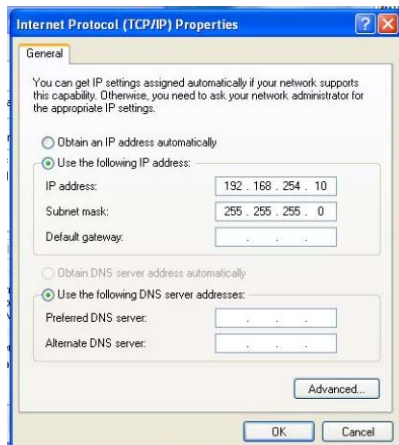

Figure 7 Set IP address
- 3 Set the last segment of the **IP Address** to something different from the LAN card, such as 10. See Figure 7.